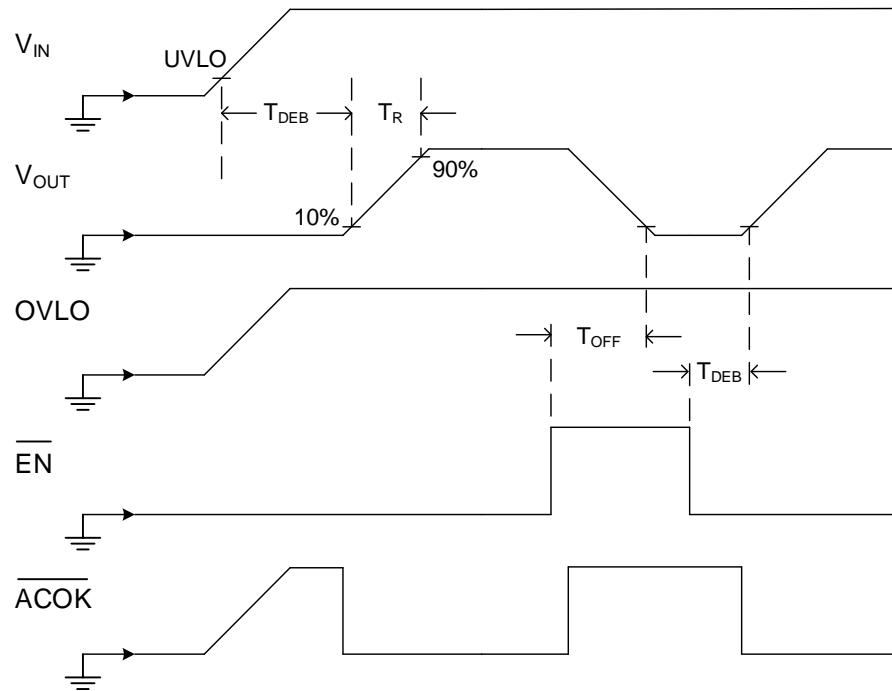

Figure 1. Ramp-up and **EN Toggling**
9. Timing as defined in Figure 1.